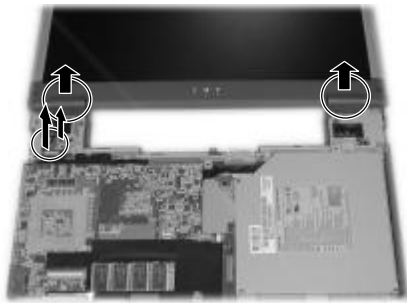

Figure 2-23 Remove two hinge covers
8. Remove the two hinge covers and disconnect two cables. (Figure 2-23)